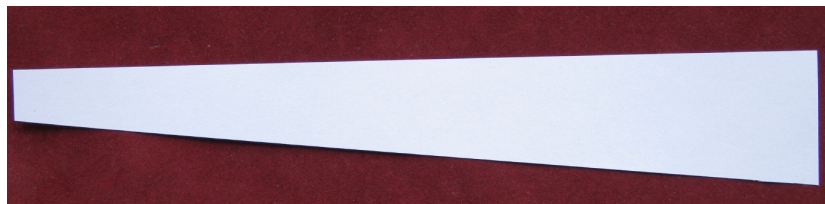

Figure 3
- Prepare a cleaning paper strips with the shape shown in Figure 3. Paper strip of trapezoid shape, about 30 cm in length, with bases 5 cm and 2 cm, thickness of about 0.1 mm (standard office paper).